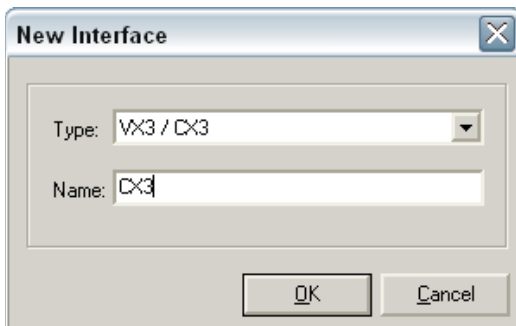

Figure 8-4: New interface: Matrix
- During the course of this procedure, the dialog box "New interface" is opened. Select the Type "VX3 / CX3" and provide a name for the matrix interface. In **figure 8-4** the name "CX3" was used.